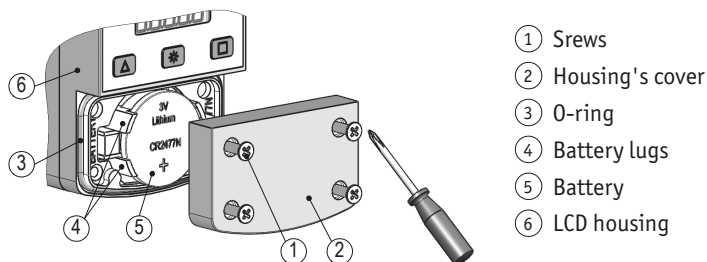

Fig. 11: Battery change
- ▶ Evenly tighten the screws ① until the housing's cover ② is completely aligned with the LCD housing ⑥ (see Fig. 11).
#### Dismounting (see Fig. 11):
#### Mounting (see Fig. 11):